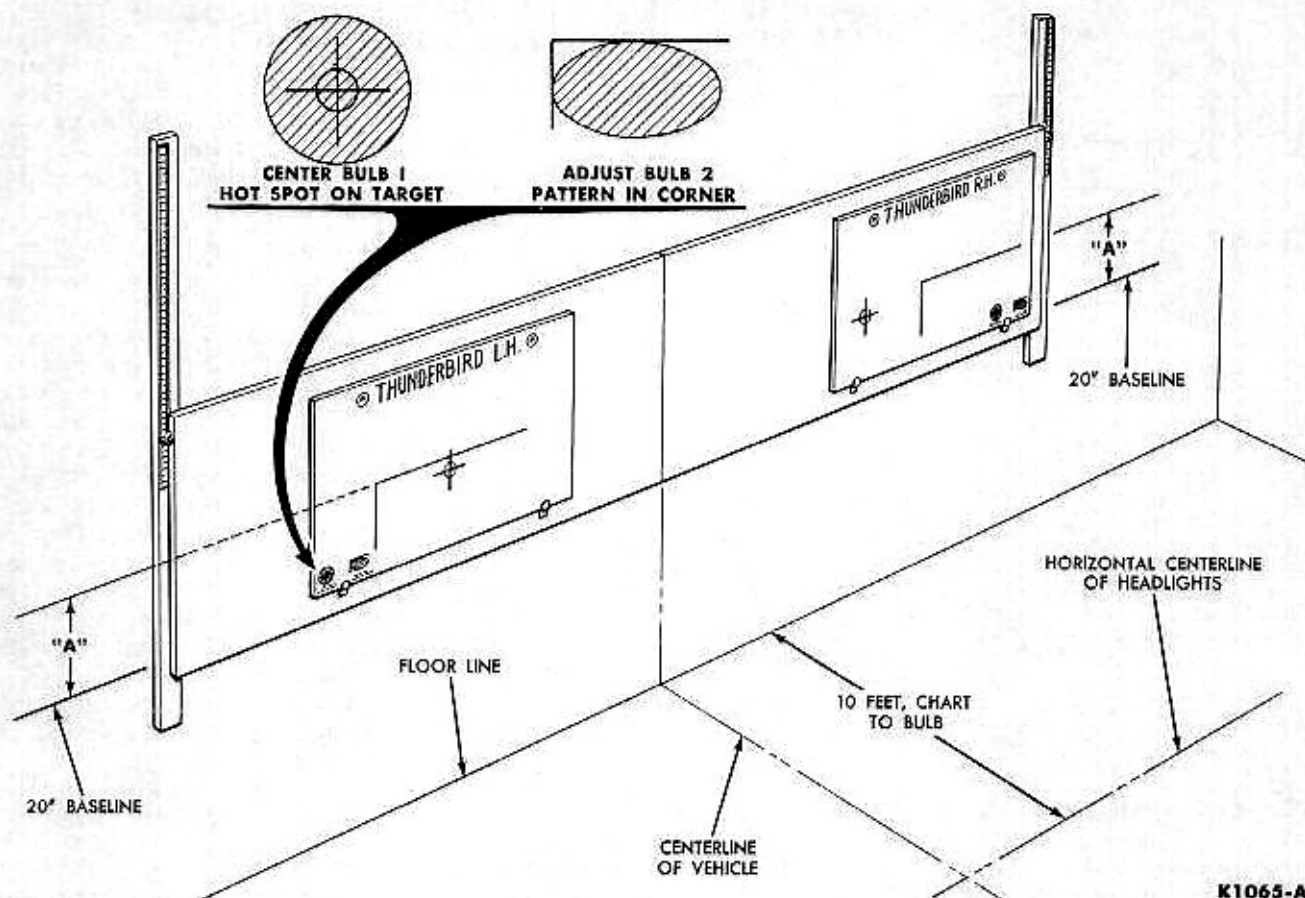

FIG. 4—Headlight Wall Charts
light Alignment Wall Charts), center the vehicle in front of the charts, as shown in Fig. 4. Although the vehicle headlights are positioned 10 feet from the charts, the charts are designed to provide a high beam drop of 2 inches in 25 feet. Check your state law, as an additional allowance will have to be made in states requiring a greater drop.
2. Select the Thunderbird aiming charts and position them as shown in Fig. 4. Lock them in position by turning the stud caps 90°. Be sure that the bottom of each chart is located in the retainers.
3. Measure the distance from the floor to the headlight lens center of each outboard light. Record the average height. Subtract 20 inches from the average height. This dimension ("A" Fig. 4) is the distance that the No. 2 headlight horizontal line on each chart must be positioned above the 20 inch base line.
headlight hot spot on the target as shown on the inset (Fig. 4). Cover the No. 2 lights when making this adjustment.
6. Put the headlights on low beam. Adjust each No. 2 (outboard) headlight hot spot in the corner of the rectangular pattern as shown on the inset (Fig. 4).